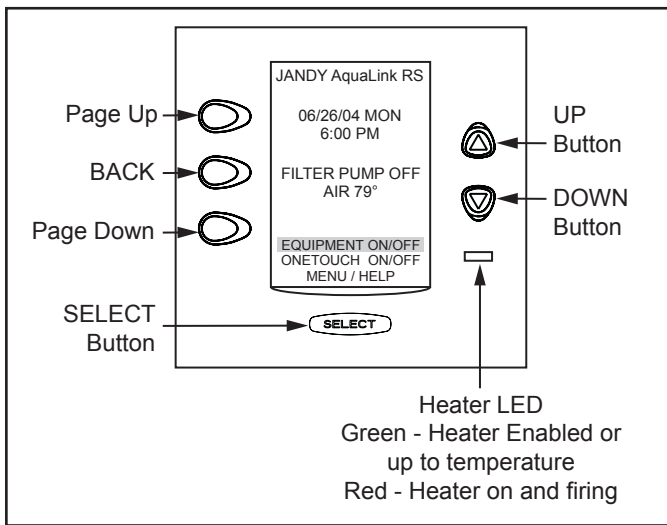

Figure 28. OneTouch Control Panel Buttons
6. Insert a screw through the screw boss (see Figure 28). Put a cleat into the top “U” shaped hole. Hand tighten the screw and repeat the process for the bottom cleat.
To set a particular piece of equipment to turn on and off at predetermined times, highlight MENU/HELP and press SELECT (see Figure 28). Highlight PROGRAM and press SELECT. Use the UP or DOWN buttons to highlight the equipment (for example, filter pump) then press SELECT. Follow the on-screen prompts. Use the UP or DOWN buttons to pick each number, starting with ON hours, press SELECT to enter and move on to the next item to change, including picking what day(s) the program will run. If you make a mistake, use the BACK button to return to a number. If the program is already entered, highlight CHANGE PROGRAM and step through to the entry that should be corrected.